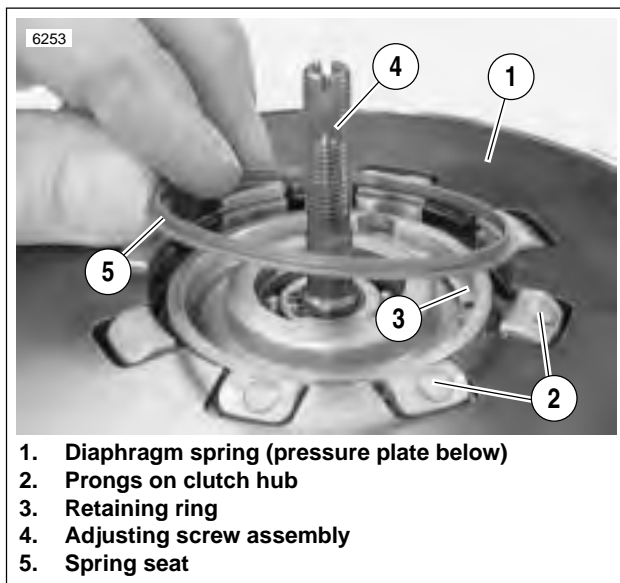

Figure 6-19. Spring Seat Installation
1. See Figure 6-19. Align square openings of pressure plate and diaphragm spring so that the assembly can be installed over prongs of clutch hub.
- b. See Figure 6-19. Position diaphragm spring with its concave side facing toward pressure plate onto pressure plate assembly.